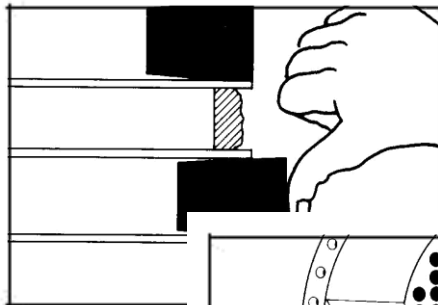

Figure 2
2. Use drill or edge grinder with an abrasive to make a "V" groove along crack to increase surface area for application of epoxy. Degrease the grooved area to remove any contamination (**Figure 2**).